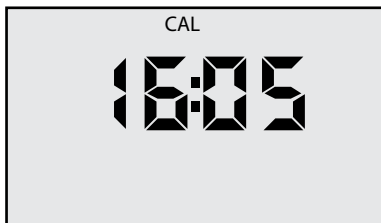

Figure 10
3. Press CAL MCLR to initiate. **CAL** will be displayed along with the time, (see Figure 10).